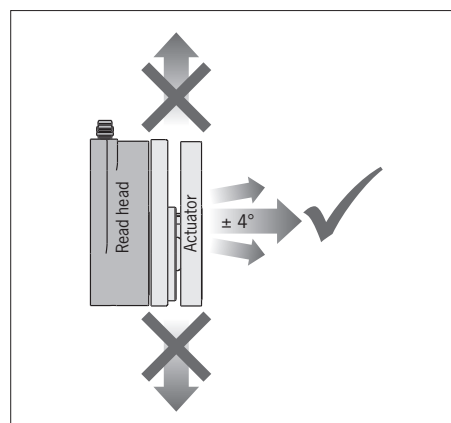

Figure 1: Approach direction
- ▶ When the safety door is opened, the actuator must be moved away from the read head toward the front (see Figure 1).